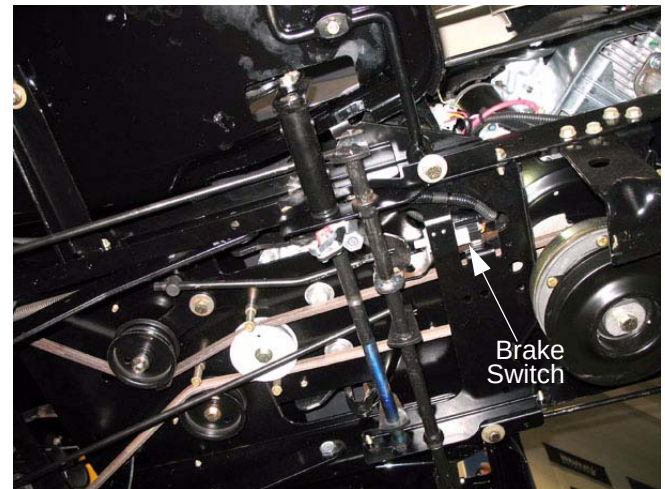

Figure 7.8
4. The **Brake Switch** is mounted to the inside of the frame on the right side. See Figure 7.8.